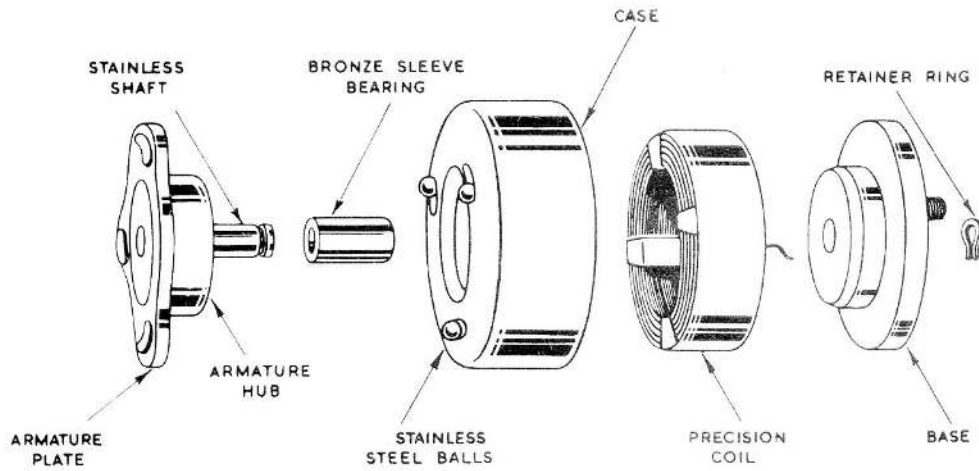
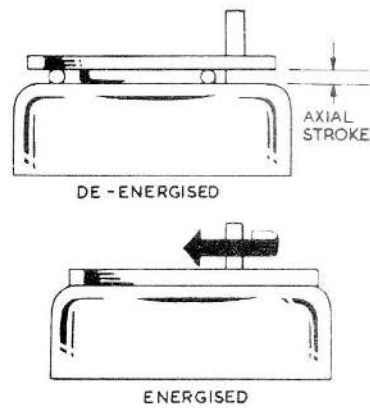

Fig. 2. Exploded view of rotary solenoid
Fig. 3. Operation of rotary solenoid
3. An exploded view of the unit is shown in fig. 2. The armature is supported by three steel balls which travel around and down in three inclined ball races as the winding is energized. The angle is steepest at the beginning of the stroke and gradually decreases as the balls approach the end of the races, so that the operating force of the solenoid is distributed evenly over the whole of the rotary stroke. In this manner the comparatively small axial stroke of the armature is translated into a relatively larger rotary stroke (fig. 3). A torque of 4.82 lb in. at 20 deg. C is developed at the beginning of the 35 deg. stroke, and 3.69 lb. in. at the end. A torsion spring returns the armature to its original position when the coil is de-energized.